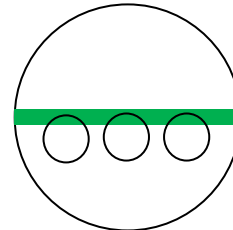

Figure 5 – RightSwitch Indicator Orientation
4. Install the RightSwitch Indicator (RS32HMI) with RightSwitch MCC PCB (RS32M) attached, into the MCC using the orientation shown in Figure 5.
2. Install the RightSwitch Indicator (RS32HMI) with RightSwitch MCC PCB (RS32M) attached, into the MCC using the orientation shown in Figure 5.